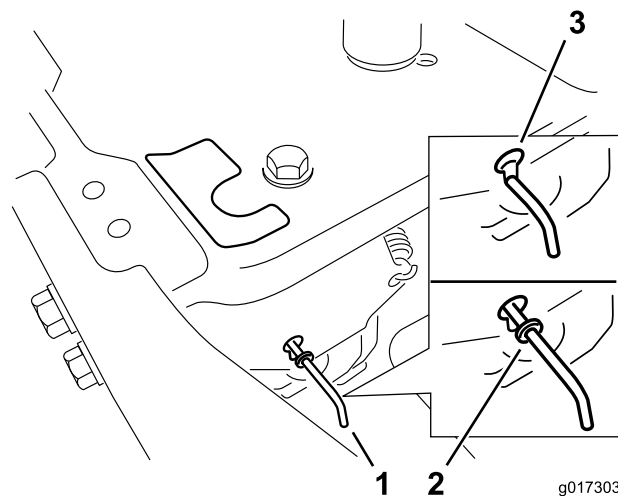

Figure 25
4. Move the bypass levers forward through the key hole and down to lock them in place as shown in Figure 25. Ensure this is done for each lever.
Move the bypass levers rearward through the key hole and down to lock them in place as shown in Figure 25. Ensure this is done for each lever.